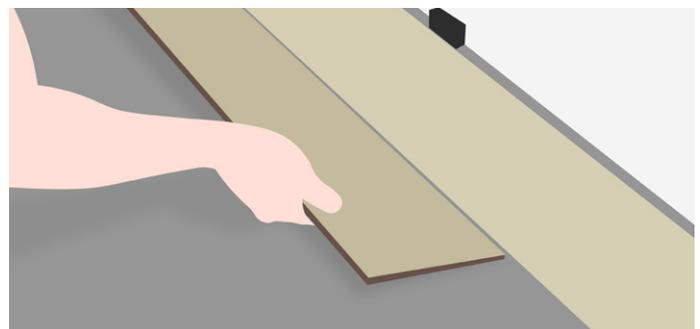

Fig. 5
5. Begin laying the second row. Click the tongue into the groove by holding the board at around a 30° angle and pushing forward (fig. 5). Then lower the board until it lays flat against the ground. A tapping block and mallet can be used to install the tiles neatly into place (fig. 6)